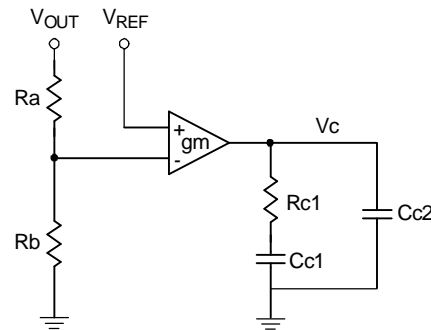
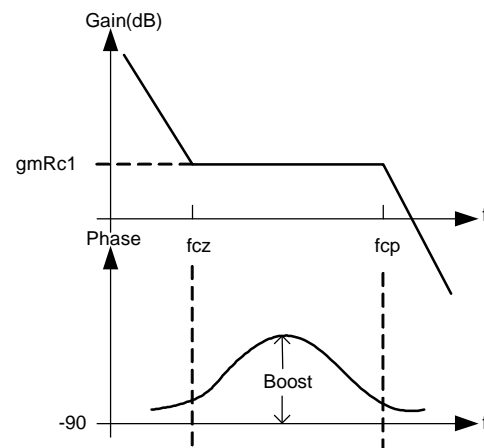

Figure 9. The typical type 2 trans-conductance error amplifier.
Figure 10. The Bode plot of type 2 trans-conductance error amplifier
So, the transfer function of compensator  $C(s)$  must be designed to meet these requirements. In many applications, use an electrolytic capacitor as the output capacitor, if the zero ( $f_z$ ) caused by effective series resistance (ESR) of capacitor is a few kHz and smaller than 8 times  $f_p$ , the type 2 (PI) can be used to get desired compensation. Figure 9 shows the typical type 2 trans-conductance error amplifier and the Bode plot is also shown in Figure 10.